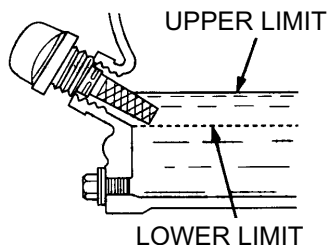

Figure 4. Engine Oil Dipstick (Oil Level)
4. If the oil level is low (Figure 4), fill to the edge of the oil filler hole with the recommended oil type (Table 5). Maximum oil capacity is 0.63 quarts (0.60 liters).